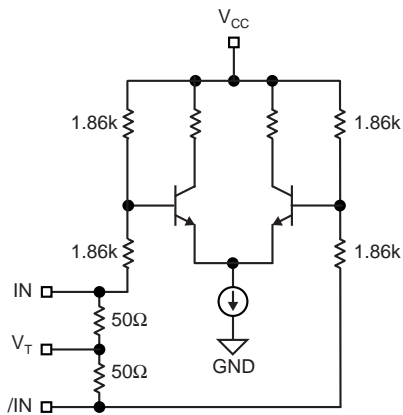

Figure 2a. Simplified Differential Input Buffer
- Note 3.** Due to the internal termination (see Figure 2a) the input current depends on the applied voltages at IN, /IN and V_T inputs. Do not apply a combination of voltages that causes the input current to exceed the maximum limit!